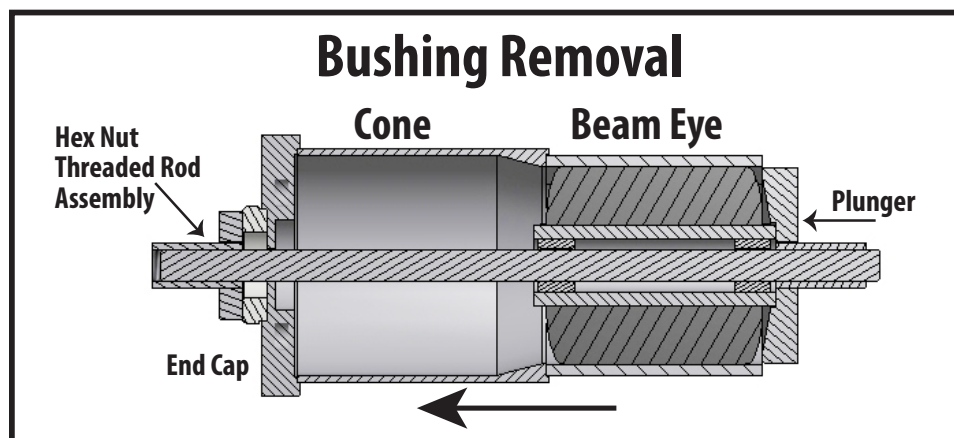

Figure 1. Tapered end of cone is placed against beam eye for removal.
3. Assemble the bushing replacement tool and place on the eye of the beam (Figure 1). NOTE: Cone is tapered inside to a smaller opening on one end.